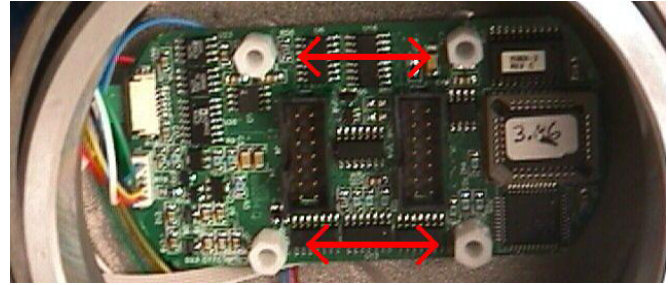

Figure 5. Bottom electronics board standoffs locations
5. Unscrew four standoffs and remove bottom board (Figure 5).